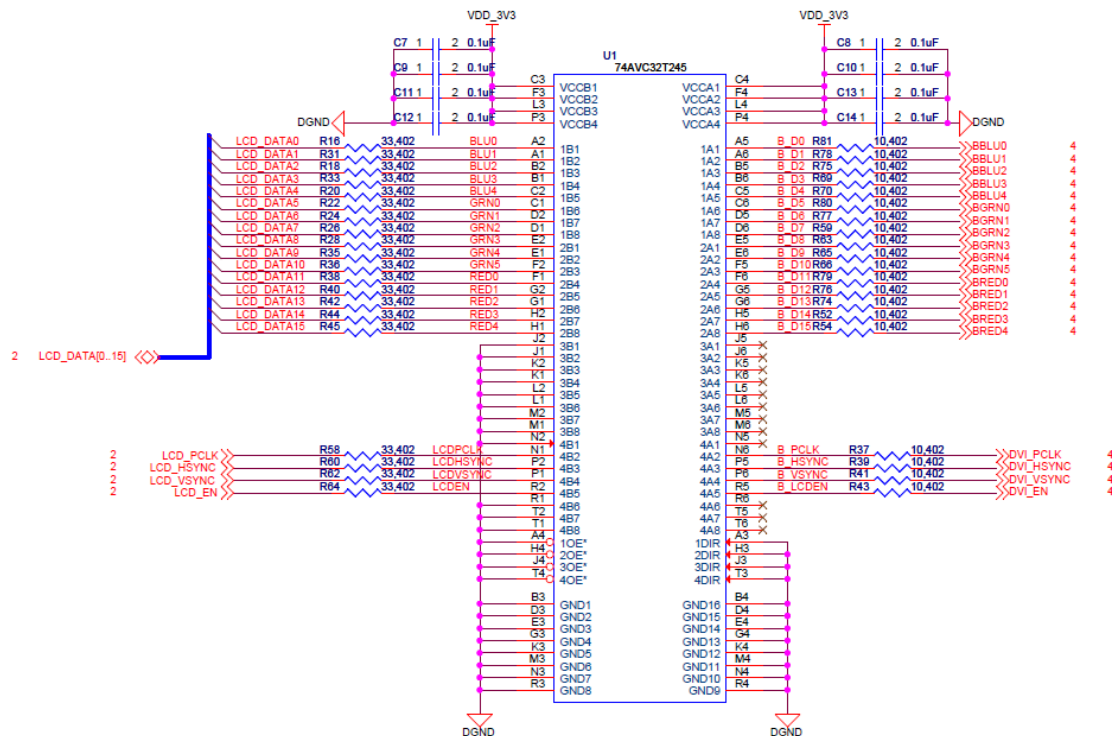

Figure 10. Bus Transceiver
LCD data and control signals are buffered through 74AVC32T245 which is a 32-bit dual supply bus transceiver. The 74AVC32T245 also features configurable voltage translation and can operate within voltage range of 1.4V-3.6V. Direction-control (DIR) and output-enable (OE) inputs determine which direction the device transmits data. LCD signals from the main expansion headers are at 3.3V level and the buffered output from the 74AVC32T245 are also at 3.3V; thus, no voltage stepping up or down is needed. **Figure 10** shows the LCD signals buffered through 74AVC32T245.